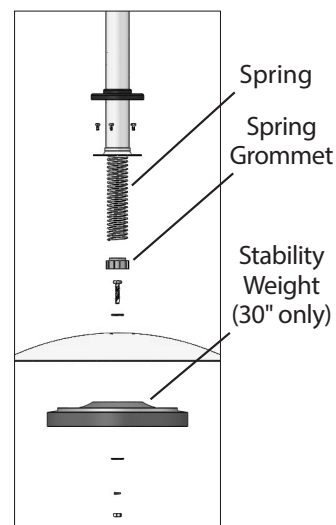

Figure 1
2. Insert the spring into the pole assembly from the bottom. Insert the spring grommet to hold the spring in place (**Figure 1**).